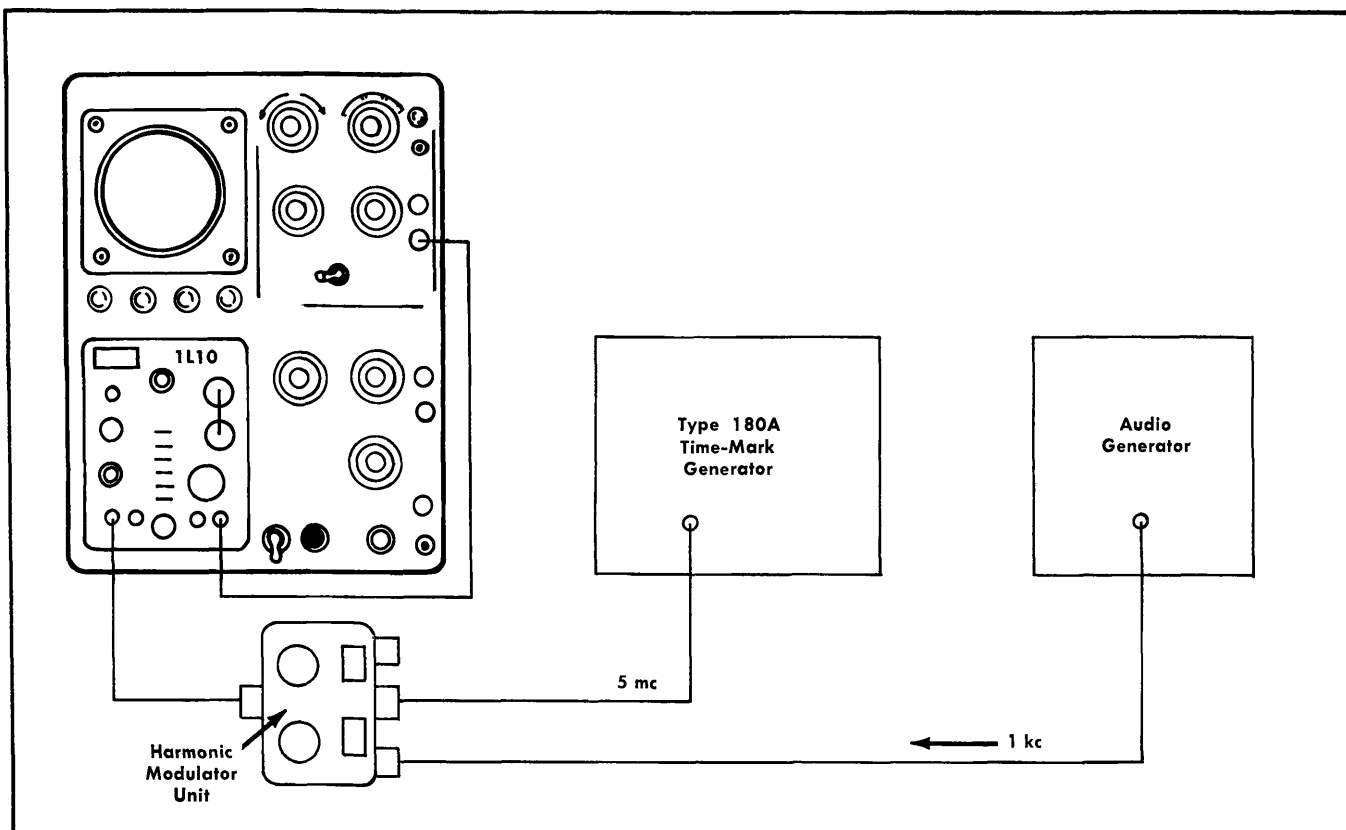

Fig. 4-8. Equipment setup for resolution check.
1. Connect up the equipment as shown in Fig. 4-8.